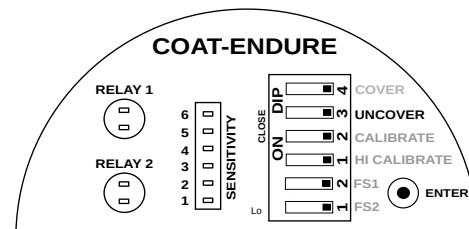

Figure 12: Saving Uncover Delay
- Uncover Delay is entered, but not saved. To save and test the Uncover Delay, set the UNCOVER switch back to OPEN position as shown in figure 12. The STATUS LED of Relay 1 will come back to its original position.